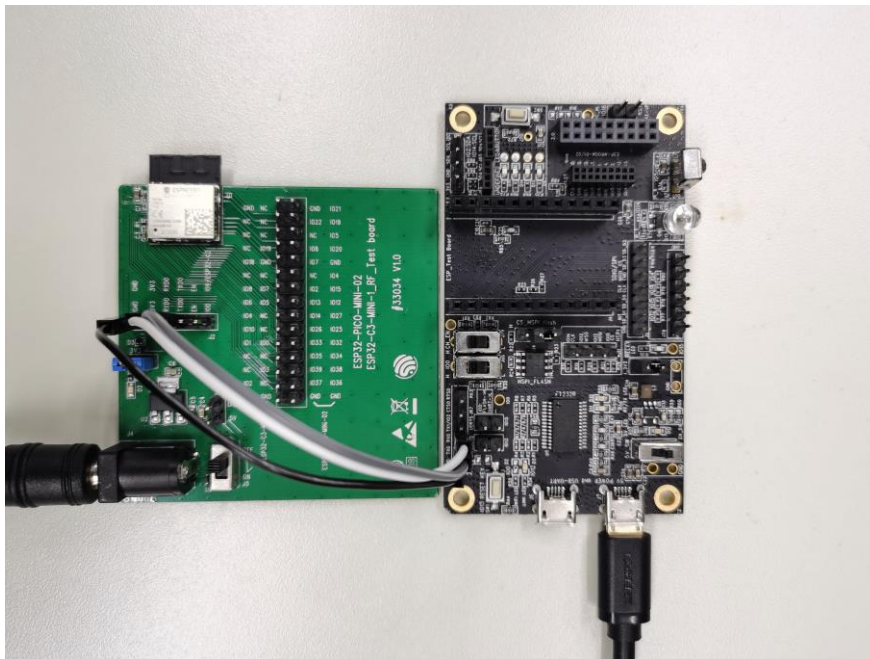

Figure 2: Hardware Connection
1. Solder the EEMH-PT02 module to the RF testing board as shown in Figure 2.